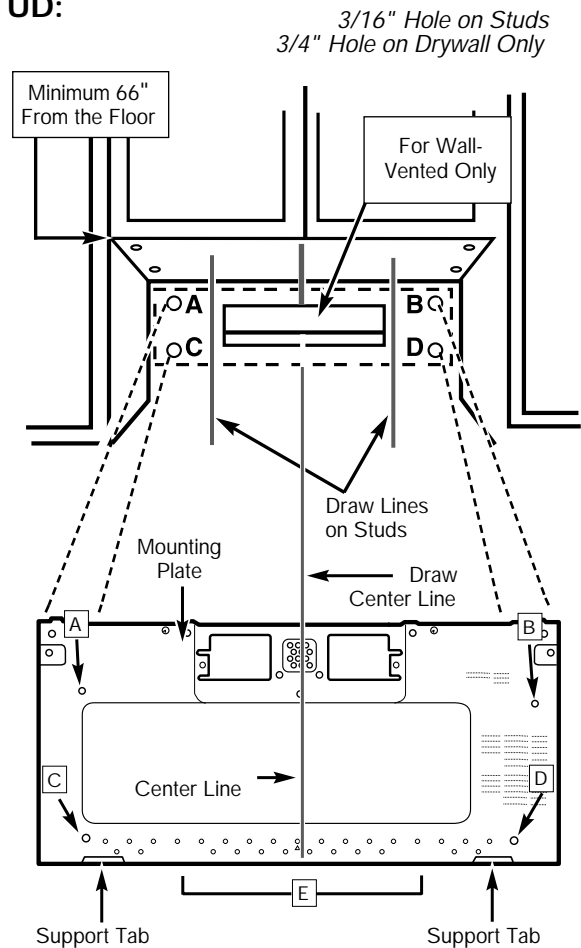

Figure 26
1. Carefully lift microwave oven and hang it on support tabs (See Figure 26 on the page 15) at the bottom of the mounting plate. Reaching through upper cabinet, thread power supply cord through the power supply cord hole in the bottom of the upper cabinet.